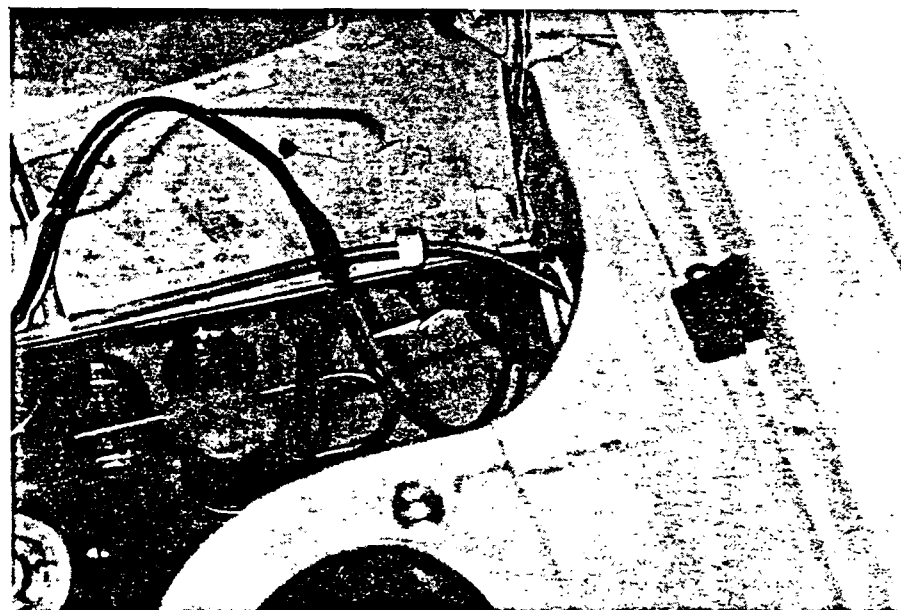

*FIGURE 7 – Tachometer harness - tachometer connector*
5. Connect the remaining three-wire connector of harness assembly to matching connector on tachometer assembly. Connect the two individual wires to the matching wires on the tachometer assembly. Figure 7 shows these connections.